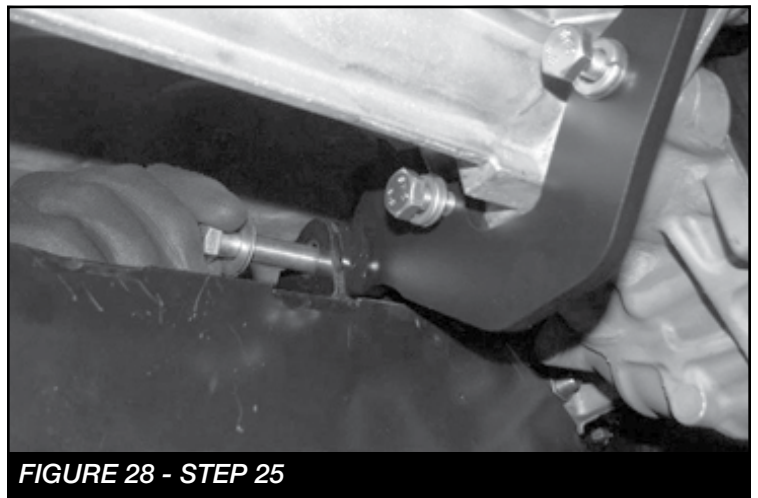

FIGURE 28 - STEP 25
25. Install a 1/2"-13 x 4" bolt, washers and nut through the tabs on the rear crossmember and the bushing on the center bracket. Leave loose at this time. **SEE FIGURE 28**